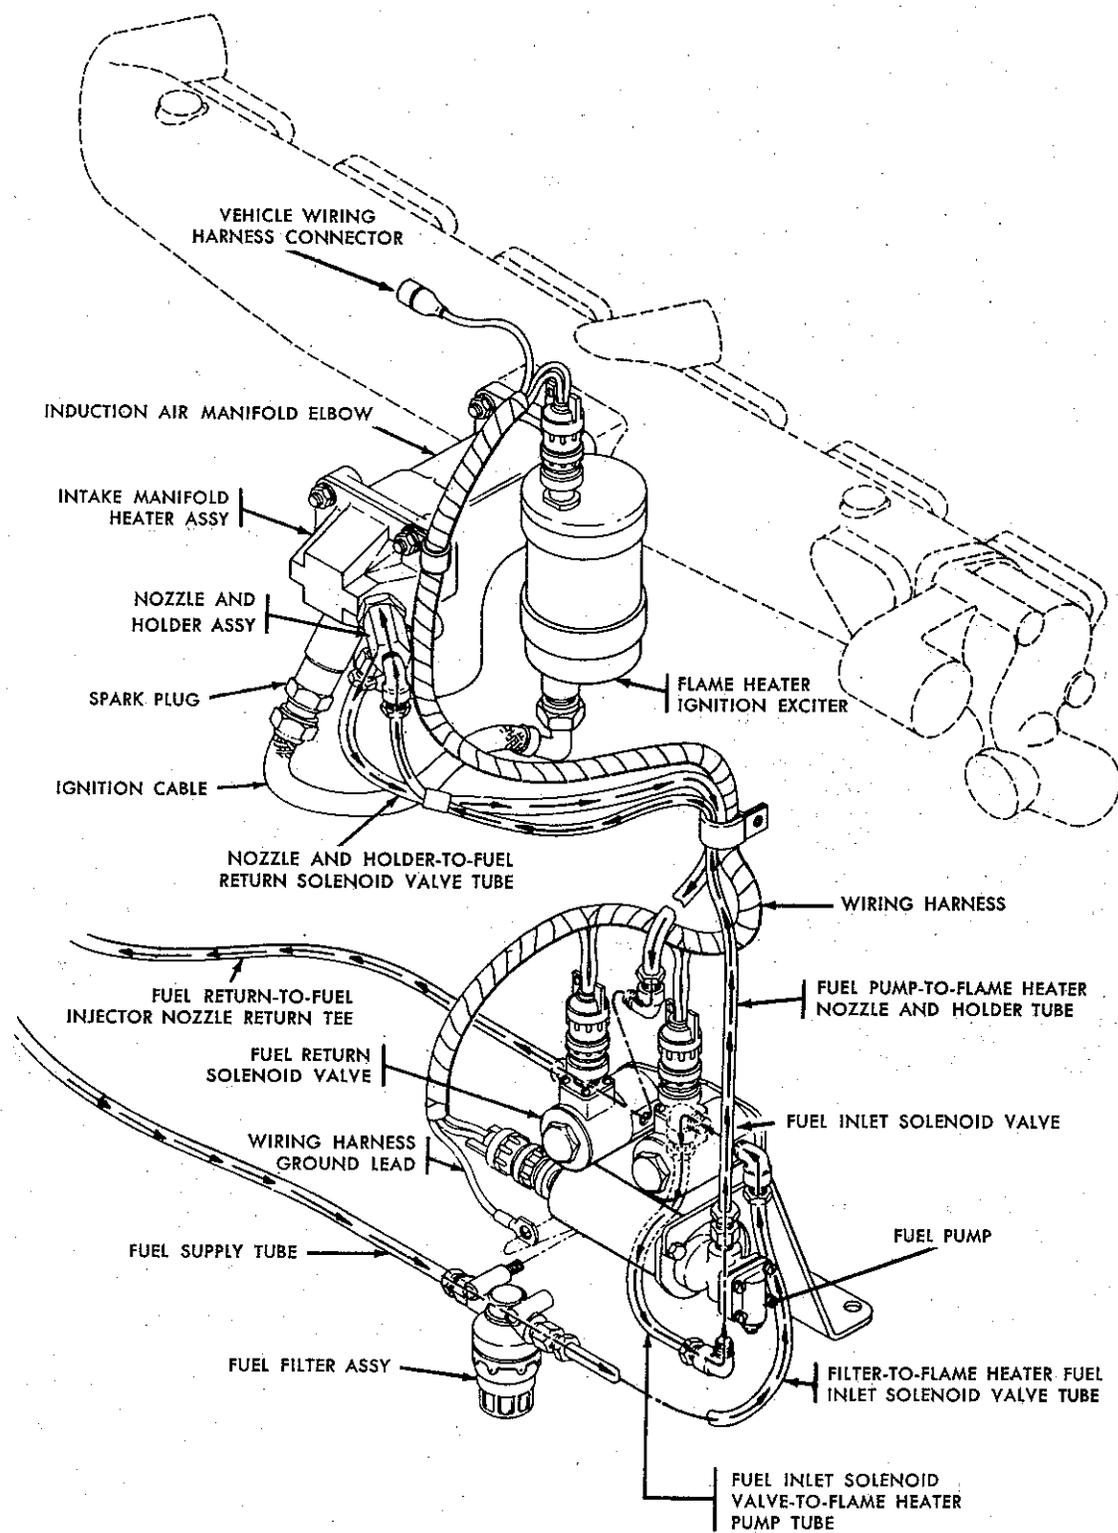

Figure 5. LDS-465-1 Engine Flame Heater System Diagram
h. Intake Manifold Heater. (Figure 5) The